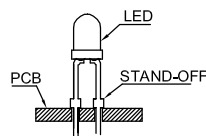
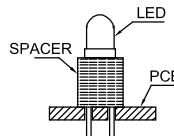

Fig. 3
Fig. 4
- Use stand-offs (Fig.3) or spacers (Fig.4) to securely position the LED above the PCB.